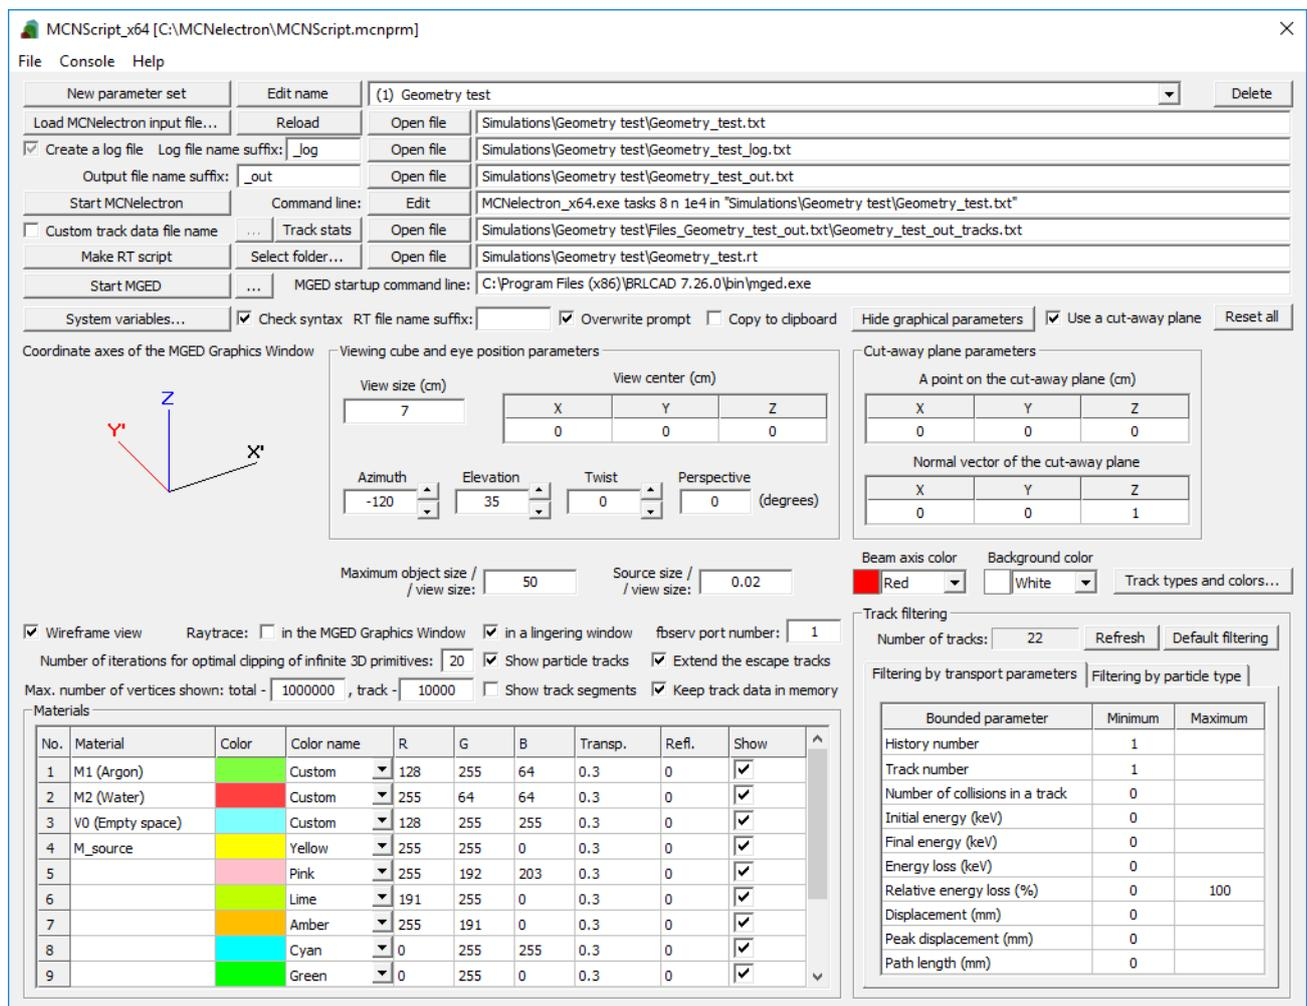
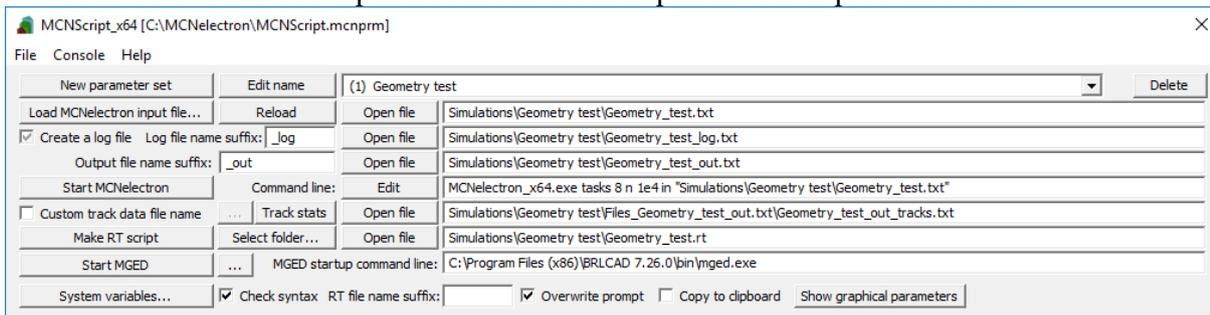
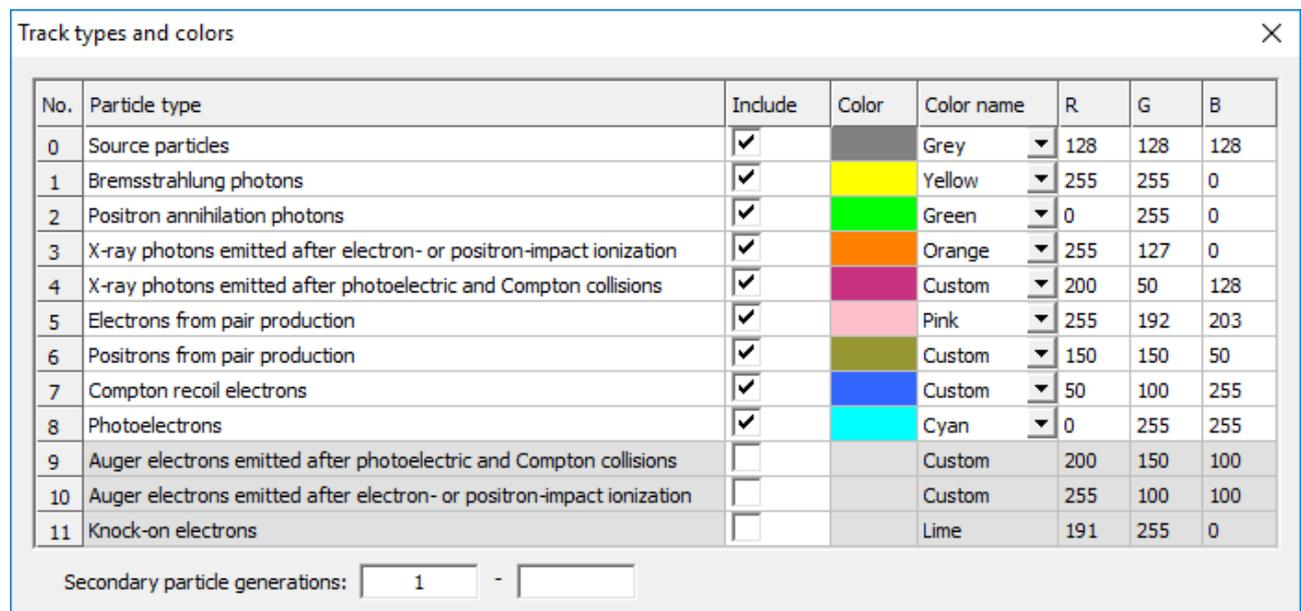
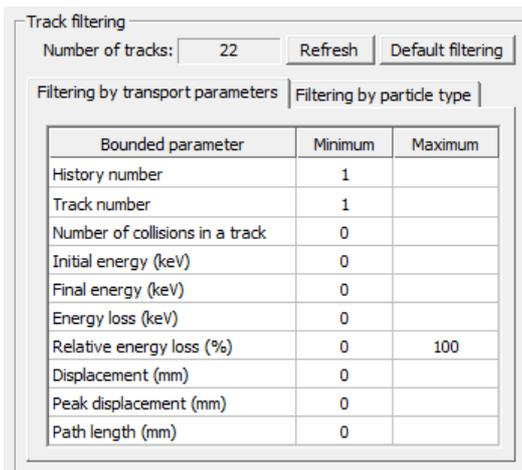

Fig. 2.1. An example of the MCNScript main window.
Fig. 2.2. The reduced version of the MCNScript main window (without the graphical parameters).
Fig. 4.3. An example of the dialog window “Track types and colors”.
Fig. 6.8. The track filtering controls of the MCNScript main window.
MCNScript is started by running the executable file MCNScript.exe or MCNScript_x64.exe (the former is 32-bit, the latter is 64-bit). The main window of MCNScript shows the names of MCNelectron input and output files, the MCNelectron command line and various graphical parameters. All displayed parameters form a “parameter set”. Parameter sets can be selected, created, deleted or renamed using the top row of controls (see Fig. 2.1).
The data of all parameter sets are stored in an ASCII file with extension “.MCNPRM”. Further on, this file will be called “parameter file”. The name of the current parameter file is shown in the title bar of the main window (see Fig. 2.1). Parameter files can be opened or saved using the “File” menu. The name of the parameter file can be specified on the command line used to start MCNScript. If MCNScript is started without any command-line arguments, the parameter file will be assigned the default name “MCNScript.mcnprm” (if there is a file with that name in the folder where the executable file “MCNScript.exe” is located, then it will be opened automatically, otherwise it will be created).
Although the main function of MCNScript is running the simulations with MCNelectron and setting up the initial view of the simulated system geometry and particle tracks in the MGED window, it can also perform elementary statistical analysis of the particle track data calculated by MCNelectron, as well as filter the particle tracks according to various criteria. The calculated track statistics are shown in a dialog window that is opened by clicking the button “Track stats”, which is in the sixth row of controls of the MCNScript main window (see Fig. 2.1). The same dialog window contains two tabs with the data used for track filtering (those tabs are duplicated at the bottom right of the MCNScript main window). The tab “Filtering by transport parameters” contains a grid control with transport parameters (this tab is the active one by default; it is visible in Fig. 2.1), and the tab “Filtering by particle type” contains a set of controls for selecting the types of secondary particles for calculation of the statistics and for display in the MGED Graphics Window.
The graphical parameters control the initial view of the system geometry and particle tracks after loading the RT script created by MCNScript. The view may be modified afterwards using various MGED commands or by re-creating the RT script with a different set of graphical parameters and then reloading it in MGED. The graphical parameters occupy the bottom two thirds of the MCNScript main window (see Fig. 2.1). They can be hidden using the button “Hide graphical parameters”. After clicking this button, the text on it changes to “Show graphical parameters” (see Fig. 2.2). After clicking this button again, the MCNScript main window will be restored to its initial size (with the graphical parameters shown). If an invalid value is entered in any of the numerical text boxes, the previous value is restored. The button “Reset all” (see Fig. 2.1) is used to set all graphical parameters to their default values.
The names of the MCNelectron input file, log file and output file are shown in the three text boxes that are at the end of the second, third and fourth row of controls of the MCNScript main window (see Fig. 2.1). The remaining command-line arguments can be specified in the dialog window “MCNelectron command-line arguments”, which is opened by clicking the button “Edit”, which is in the fifth row of controls (see Fig. 2.1). An example of that dialog window is shown in Fig. 3.1.
By default, the name of the MCNelectron output file is formed by appending the suffix “_out” to the name of the MCNelectron input file. If this suffix is specified, then the name of the output file will be omitted from the command line (see Fig. 2.1). The mentioned suffix can be modified in the text box “Output file name suffix” (see Fig. 2.1 and Fig. 3.1). If that text box is cleared of any text, then it becomes possible to enter an arbitrary name of the MCNelectron output file directly in the text box where that file name is shown (in this case, the output file name will be specified on the command line, even if that name is the same as the default name). The file name suffix may include the two-character string “%d”, which has a special meaning: if it is present, then it will be replaced by the sequence number of the current parameter set (this number is shown in parentheses before the name of the parameter set in the dropdown list, which is at the top of the MCNScript main window).
By default, the log file name is formed by appending the suffix “_log” to the name of the MCNelectron input file. This suffix can be modified in the text box “Log file name suffix” (see Fig. 2.1 and Fig. 3.1). In all other respects, the name of the log file is treated in the same way as the name of the output file (see the previous paragraph). The log file name may be specified on the command line only when the tri-state checkbox “Create a log file” is checked or when it is indeterminate (as in Fig. 2.1). This checkbox corresponds to the MCNelectron command-line argument “writeLog”. If that checkbox is indeterminate, this keyword will be omitted from the command line, i.e., the corresponding parameter will be assigned the default value. The checkbox “Create a log file” is duplicated in the MCNScript main window (see Fig. 2.1).
The button “System variables...” (see Fig. 3.1) is used to open the dialog window where the values of the MCNelectron system variables may be specified (see Fig. 3.2). Those variables may be used in the user programs embedded in the MCNelectron input file (see the MCNelectron user manual for details). The “System variables” dialog window is modeless, which means that it may be kept visible while interacting with the other windows of the MCNScript graphical user interface. The button “System variables...” is also present in the MCNScript main window (see Fig. 2.1).
The entire MCNelectron command line is shown in the text box at the end of the fifth row of controls of the MCNScript main window (see Fig. 2.1).
The specified MCNelectron input and output files can be opened by clicking the buttons “Open file”, which are to the left of the text boxes with the file names (see Fig. 2.1 and Fig. 3.1). This action is equivalent to double-clicking the file name in the Windows File Explorer.
After specifying the names of input and output files and entering all other necessary command-line arguments, a Monte Carlo simulation can be started. This is done by clicking the button “Start MCNelectron”, which is at the beginning of the fifth row of controls of the MCNScript main window (see Fig. 2.1). After clicking this button, the Windows command-line interpreter “cmd.exe” window is opened, where all messages of MCNelectron are output (see Fig. 3.3). After finishing the simulation run, the corresponding cmd.exe window is not closed automatically (it must be closed manually). While the cmd.exe window is open, the text on the button “Start MCNelectron” is changed to “Activate the cmd.exe window” (see Fig. 3.3). Afterwards, if the cmd.exe window is minimized or covered by other windows, this button can be used to bring it to the foreground. Each created cmd.exe window is “attached” to the corresponding parameter set. If there are several cmd.exe windows, each of them can be activated by selecting the corresponding parameter set and then clicking the button “Activate the cmd.exe window”. After closing the cmd.exe window, the text on the mentioned button becomes “Start MCNelectron” again. It is possible to “detach” a cmd.exe window from the current parameter set. This is done by right-clicking the button “Activate the cmd.exe window” and selecting “Reset this button” from the context menu. Then the text on that button becomes “Start MCNelectron” again. Afterwards, it will be possible to use this button for starting another simulation without closing the “detached” cmd.exe window.
The sixth row of controls of the MCNScript main window contains the controls related to particle track data calculated by MCNelectron (see the MCNelectron user manual for the description of the format of the track data files and the MCNelectron parameters needed for output of track data). The name of the track data file created by MCNelectron is uniquely defined by the output file name: MCNelectron forms the name of the track data file by appending “_tracks.txt” to the output file name, and puts the track data file in the subfolder with the name “Files_<output_file_name>”. Consequently, this is the name that is shown in the text box at the end of the sixth row of controls of the MCNScript main window, if the checkbox “Custom track data file name” is not checked (see Fig. 2.1). If the latter checkbox is checked, then it is possible to enter an arbitrary file name in the mentioned text box, or to browse for a track data file using the button “...”, which is in the same row of controls (see Fig. 2.1).
The specified file with track data can be opened by clicking the button “Open file”, which is to the left of the corresponding text box with the file name (see Fig. 2.1). This action is equivalent to double-clicking the file name in the Windows File Explorer.
The button “Track stats”, which is in the sixth row of controls of the MCNScript main window (see Fig. 2.1), is used for selecting a subset of particle tracks according to various criteria and for elementary statistical analysis of that subset. An example of the “Track statistics” dialog window, which is opened by clicking the button “Track stats”, is shown in Fig. 4.1.
The two tabs of the “Track filtering” group of the “Track statistics” dialog window are duplicated in the lower right of the main MCNScript window (see Fig. 2.1). The changes of the filtering parameters done in the “Track statistics” dialog window will be carried over to the main MCNScript window only after clicking “OK” in the “Track statistics” dialog window.
The functionality of filtering by particle type is also provided by the dialog window “Track types and colors”, which is opened by clicking the button “Track types and colors...” in the MCNScript main window (see Fig. 2.1). An example of the dialog window “Track types and colors” is shown in Fig. 4.3. It has the same checkboxes and text boxes as the tab “Filtering by particle type” (see Fig. 4.2b), as well as the controls for selection of track colors for different track types. Below is the explanation of the meanings of all columns of the grid control that is in the dialog window “Track types and colors”:
If particle tracks have to be displayed in the MGED Graphics Window, then the MGED commands for drawing each type of tracks will be placed into a separate script file. The initial part of the name of each of those files is the same as the name of the main script file (i.e., it is the name of the MCNelectron input file with the appended suffix), and the last part of the track script file name has the format “_tracks<n>_<string>.txt”, where “<n>” is the track type number, and “<string>” is a short sequence of characters describing the track type. For example, the name of the file with photoelectron tracks ends with “_tracks8_photoel.rt”. The type numbers are shown in the first column of the grid control in the dialog window “Track types and colors” (see Fig. 4.3). Each of those track scripts will be loaded automatically when executing the main script, because the main script contains the MGED commands for loading each of the created track script files.
- If the checkbox “Show particle tracks” is checked, then the particle tracks satisfying the filtering criteria will be shown in the MGED Graphics Window. Each particle track is shown as a piecewise-linear curve starting at the point of entry of a source particle into a cell of the geometry, or at the point of creation of a secondary particle, with each linear segment representing free flight of the particle between two collisions. The color of those lines is specified in the dialog window “Track types and colors” (see Fig. 4.3 in Section 4.2). In general, not all tracks are shown, but only the ones that satisfy the filtering criteria defined in the two tabs, which are at the bottom right of the MCNScript main window (see Fig. 6.8). Those tabs are duplicated in the dialog window “Track statistics” (see Section 4.2). The number of the tracks satisfying the filtering criteria is shown in the text box “Number of tracks”, which is above the mentioned tabs, after clicking the button “Refresh” (see Fig. 6.8). In order to apply the default (minimal) filtering, the button “Default filtering” must be clicked (see Fig. 6.8). This would remove any constraints on transport parameters (as shown in Fig. 6.8) and most of the constraints on the included track types (as shown in Fig. 4.3 in Section 4.2). For more information about track filtering, see Section 4.2.
The mentioned skipping of tracks and vertices does not affect the track statistics shown in the “Track statistics” dialog window (see Section 4) and the number of tracks shown above the track filtering controls of the MCNScript main window (see Fig. 6.8). The track statistics are always calculated for all tracks and all vertices in the current set of tracks.
- If the checkbox “Show track segments” is checked, then the tracks segments defined in the “Track statistics” dialog window (see Section 4.3) will be shown instead of the complete tracks. In this case, the number displayed in the text box “Number of tracks” after clicking “Refresh” (see Fig. 6.8) is the number of track segments obtained after applying both the track filtering and the track segment selection (the order in which these two operations are applied is also defined in the “Track statistics” dialog window).